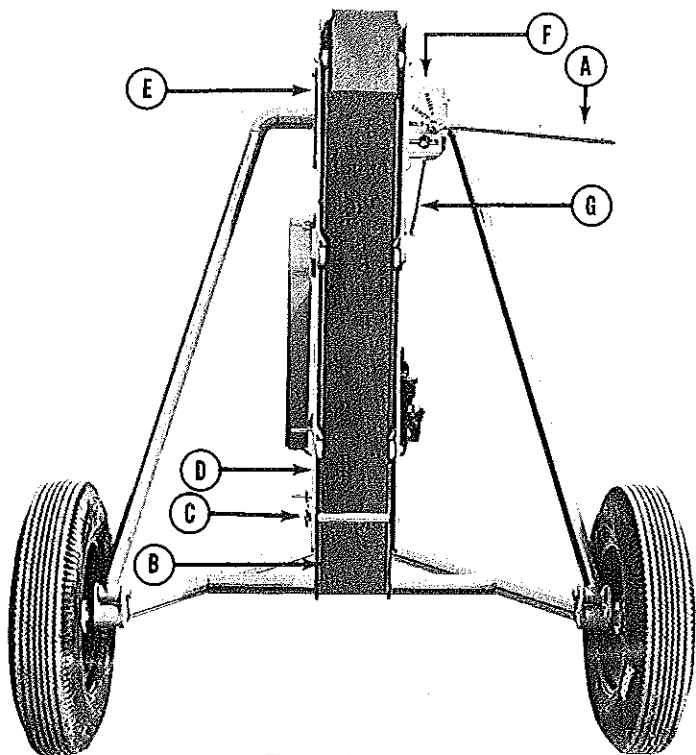
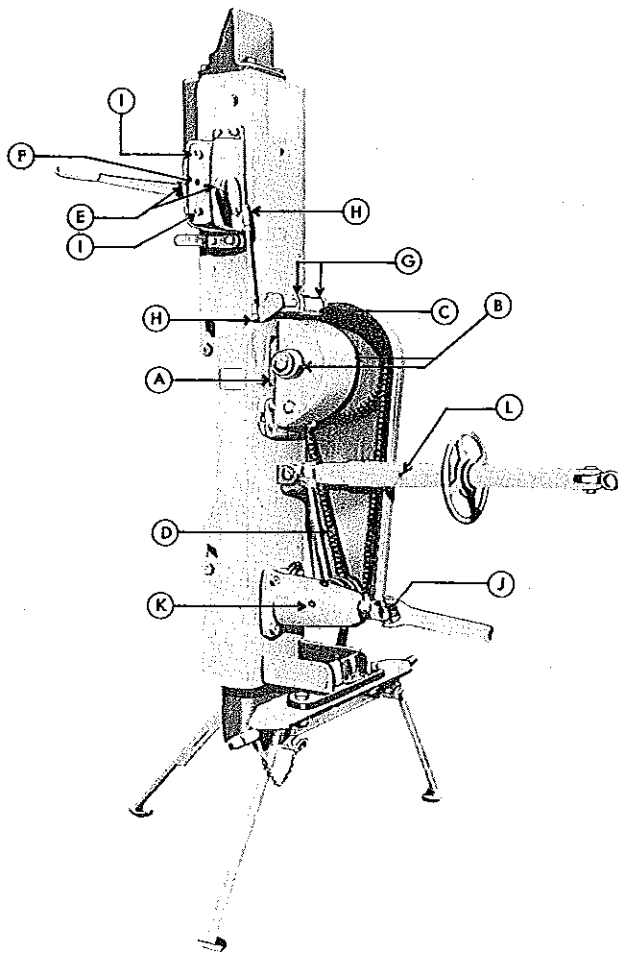
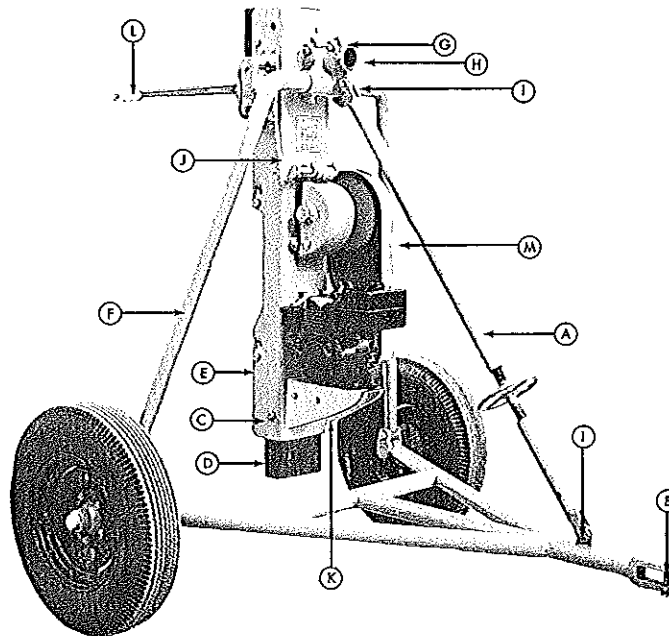

Figure 1.
Figure 2.
Figure 3.
On trailer model Driver adjust Transfer Link (A), Figure 3, to shift Driver approximately 6" rearward. Note: To drive posts in an existing fence line, lengthen Transfer Screw to maximum length. **WARNING:** Always adjust Transfer Screw (A), Figure 3, to its shortest length before detaching Trailer from towing vehicle. Adjust Driver to a perpendicular position and start tractor PTO or Trailer Driver Engine. Lower Control Handle (A), Figure 1, slightly until Drive Channel (B), Figure 1, raises enough to free Transport Pin (C), Figure 1. Remove Transport Pin and secure in ears on side of Guide Channel (D), Figure 1, with Klik Pin.
Before actual post driving is begun, operator should become familiar with the operation of the Driver by raising and dropping Drive Channel (B), Figure 1, on a heavy wooden block for a few minutes. Lowering Control Handle (A), Figure 1, slightly will cause Drive
The Control Handle (A), Figure 1, should never be lowered farther than is absolutely necessary to engage Friction Wheel (A), Figure 2, and raise Drive Channel (B), Figure 1, as this places an excessive load on the Friction Wheel and shortens its life. Also, Friction Wheel should never be left engaged after the Drive Channel has been raised to its maximum height.
When guiding the post always grip it in the cut out area of the Guide Channel (D), Figure 1, and avoid placing fingers such that they could be pinched between post and side of Channel. When driving steel posts, Drive Weight should not be raised more than 6 inches above top of post. It is recommended that a Danuser Steel Post Guide Sleeve (No. 2201) be used. This Sleeve is available as extra equipment from your Danuser dealer. When not in use, Driver should never be allowed to stand with Friction Wheel (A), Figure 2, engaged as this will flatten rubber on Friction Wheel and cause uneven operation.
Lubricate Bearings at each end of Friction Wheel Shaft (B), Figure 2.
Lubricate Friction Wheel Cradle Cam (C), Figure 2.
Apply 10 to 15 drops of SAE 30 or 40 oil to inner surface of Drive Chain (D), Figure 2.
Both Bearings on Control Handle Shaft (E), Figure 2.
Brake Release Plate (F), Figure 2.
Cradle Camshaft Bearings (G), Figure 2.
Apply one or two drops of SAE 30 or 40 oil to Ball Joints (H), Figure 2, on Drive Control Rod and to Studs (I), Figure 2, passing through Control Housing to Brake Release Plate.
Remove Drive Chain (D), Figure 2, and wash thoroughly in kerosene. Allow to dry and soak for several minutes in SAE 10 or 20 oil. Allow Chain to drain and replace.
Lubricate Transfer Link Screw (A), Figure 3.
Lubricate both Universal Joints and Universal Joint Telescoping Shaft (J), Figure 2.
Check oil level in Driver Gearbox (K), Figure 2, Oil level should be even with plug on side of Gearbox.
Lubricate Pitch Control Group (L), Figure 2.
Remove Gearbox (K), Figure 2, from Driver Guide Channel, drain and flush. Refill with Texaco EP 140 or equivalent gear lubricant.
Under ordinary conditions, there are only three parts, the two Brake Blocks (E) & (F), Figure 1, and the Friction Wheel (A), Figure 2, which will show any appreciable wear and require adjustment.
When Brakes are applied, the Brake Blocks should hold Drive Channel (B), Figure 1, in the center or slightly to left of center of Guide Channel (D), Figure 1, (As viewed by operator). This is controlled by adding or removing Shims from under Stationary Brake Block (E), Figure 1. The Driver is shipped with one thick and two thin Shims at both top and bottom of Stationary Brake Block. These Shims may be used in any combination as long as the total thickness at top and bottom is equal. When adjustment of the Stationary Brake Block has been changed, it may be necessary to change the adjustment of the Brake Release Plate (F), Figure 2. Adjustment of this Plate is controlled by the Lock Nuts at top and bottom. They should be adjusted so that Control Handle (A), Figure 1, has 1 to 2 inches free movement at its outer end.
When the Control Handle (A), Figure 1, is in "Hold" position and edges of the Drive Channel (B), Figure 1, are out against Guide Bearings, there should be from 1/16 to 1/8 inch of space between Friction Wheel (A), Figure 2, and back of Drive Channel. A piece of No. 14 gage wire may be used as a feeler gage and should just slide between Friction Wheel and Drive Channel. This spacing can be obtained by removing or adding Shims alternately above and below the Friction Wheel.
If for some reason the Driver is ever found to be completely out of adjustment, the following procedure can be used to put it in operating condition again. Remove Transport Pin (C), Figure 1, and drop Drive Channel (B), Figure 1, onto a wooden block placed on ground. Disconnect Ball Joint at lower end of Control Rod (G), Figure 1, from Lever on Cradle Cam Shaft. Adjust Brakes (E) & (F), Figure 1, and Friction Wheel (A), Figure 2, setting as outlined above. Before checking Friction Wheel spacing, be sure that Cradle Cam is released and Friction Wheel is out as far from Drive Channel as Cradle Cam will allow. Adjust length
To adjust Drive Chain (D), Figure 2, lower Control Handle (A), Figure 1, as far as it will go and loosen nuts securing Gearbox (K), Figure 2, or Engine Platform (K), Figure 3, to Guide Channel (D), Figure 1. Raise or lower Gearbox or Engine Platform until there is little or no slack in Drive Chain. Do not get Drive Chain too tight. Tighten bolts securing Gearbox or Engine Platform to Guide Channel and check Chain again. Return Control Handle to "HOLD" position.
Support Drive Channel (B), Figure 1, with a suitable hoist and remove Transport Pin (C), Figure 1.
Position Control Handle (A), Figure 1, in the "LOWER" position and raise Drive Channel (B), Figure 1, from Guide Channel (D), Figure 1. Invert the Drive Channel and reinsert it in the Guide Channel.
Insert Transport Pin (C), Figure 1, through the top holes in the Guide Channel and secure with Klik-Pin provided.
Attach tongue of Trailer to towing vehicle to be used. Make sure that Clevis Bolt (B), Figure 3, is secure.
NOTE: Do not remove Transport Pin (C), Figure 3, at bottom of Channels until Driver is completely assembled and ready for operation.
Move Driver Channels (D) and (E), Figure 3, to rear of Trailer so that by pivoting Suspension Frame (F), Figure 3, rearward, the Clamp (G), Figure 3, on Suspension Frame will slide on to the trunnion tube of Guide Channel (E), Figure 3. Assemble Sleeve (H), Figure 3, on trunnion tube. **NOTE:** Ear on Clamp should point upward and to front of Trailer.
Adjust Transfer Screw (A), Figure 3, to its shortest possible length and attach end nearest adjusting wheel to ear on Trailer Tongue with Clevis Pin (I), Figure 3, and Cotter. Raise Suspension Frame (F), Figure 3, and Driver Channels (D) and (E), Figure 3, up and forward until Transfer Screw can be attached to ear on Clamp (G), Figure 3, with Clevis Pin (I), Figure 3, and Cotter.
Adjust small Ball Joint Link (J), Figure 3, to approximately 5½ inches between locknuts on rod and connect to Cam Shaft Lever.